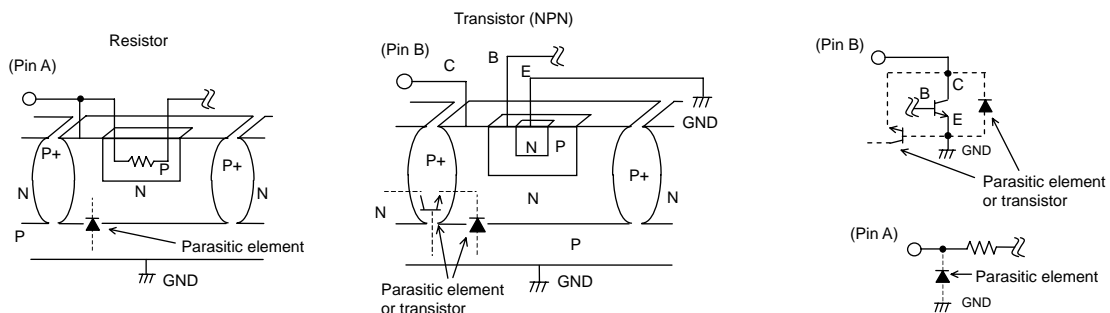

Fig.36 Example of the basic structure of a bipolar IC
- 2) This IC is bipolar IC that has a P-board (substrate) and P+ isolation layer between each device, as shown in Fig.36. A P-N junction is formed between this P-layer and the N-layer of each device, and the P-N junction operates as a parasitic diode when the electric potential relationship is  $GND > \text{Pin A}$ ,  $GND > \text{Pin B}$ , while it operates as a parasitic transistor when the electric potential relationship is  $\text{Pin B} > GND > \text{Pin A}$ . Parasitic devices are structurally inevitable in the IC. The operation of parasitic devices induces mutual interference between circuits, causing malfunctions and eventually the destruction of the IC. It is necessary to be careful not to use the IC in ways that would cause parasitic elements to operate. For example, applying a voltage that is lower than the GND (P-board) to the input terminal.